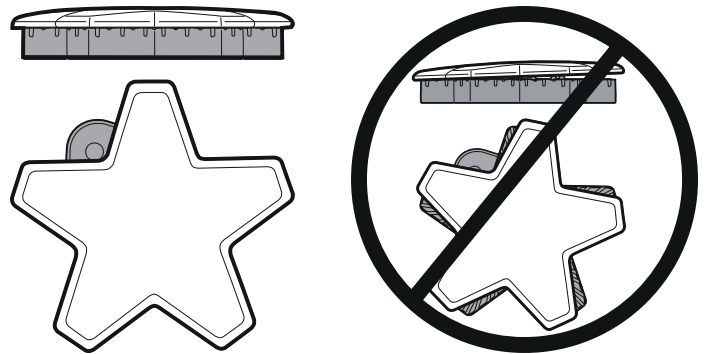

Figure 6: Correct and Incorrect Burner Cap Placement
- Check each burner to make sure there is no gap between the burner cap and burner base. See *Figure 6: Correct and Incorrect Burner Cap Placement* to see examples of correct and incorrect placements of the burner cap.
- You may gently try to move the burner caps from side to side to check if the caps are properly placed on the burner bases. When properly placed, each burner cap will rest flat on top of its burner base, and completely cover the star-shape of the burner base when viewed from the top as shown in *Figure 6*.